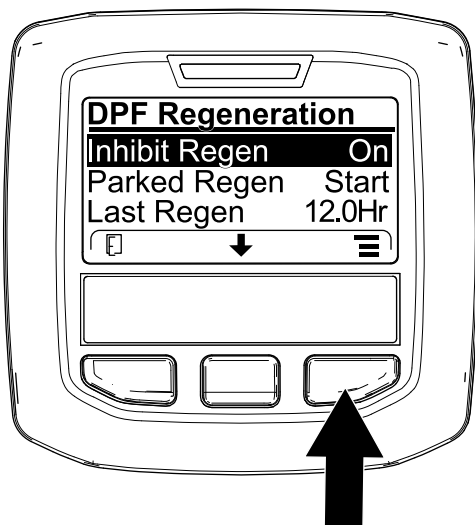
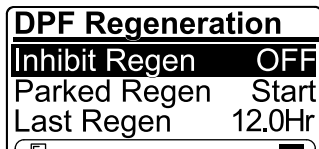

Figure 50
Figure 51
1. Access the DPF Regeneration menu, press the center button to scroll down to the INHIBIT REGEN option, and press the right button to select the Inhibit Regen entry (Figure 50).
2. Press the right button to change the inhibit regeneration setting from On to Off (Figure 50) or from Off to On (Figure 51).